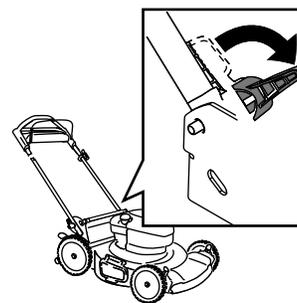

Figure 21
3. Disengage the handle locks (Figure 21).